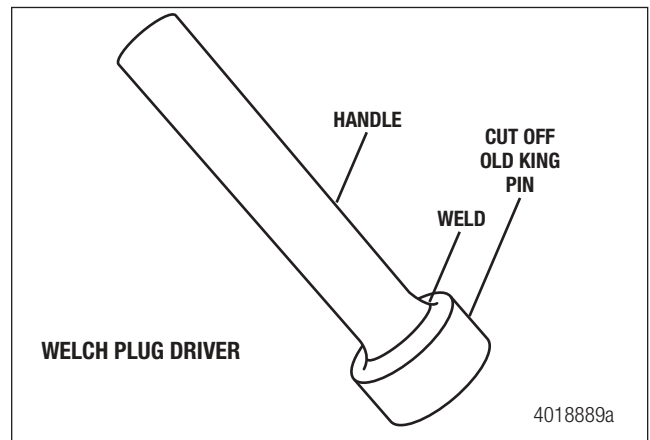

Figure 8.6
**NOTE:** The welch plug needs to be installed by a tool approximately 90% its diameter. If an appropriate tool is not available, one can be made by cutting off the rounded end of an old king pin and attaching it to a handle or drift. Figure 8.6.